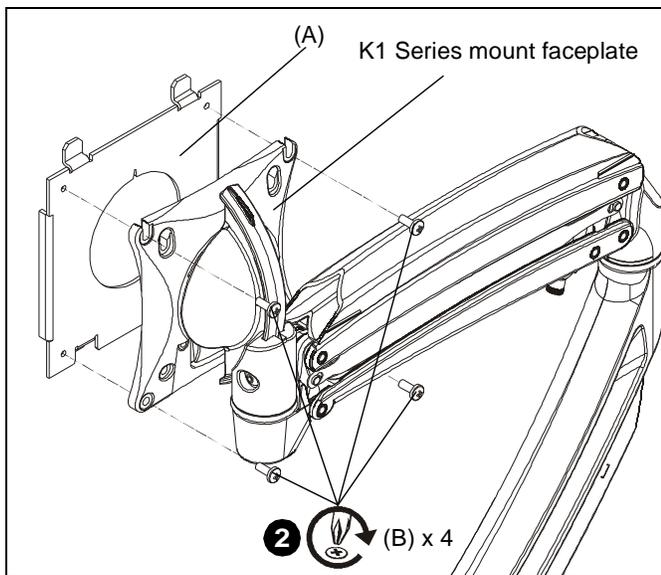

Figure 1
1. Use four M4x10mm Phillips pan machine screws (B) to secure KSA1250 interface bracket (A) to K1 Series faceplate. (See Figure 1)